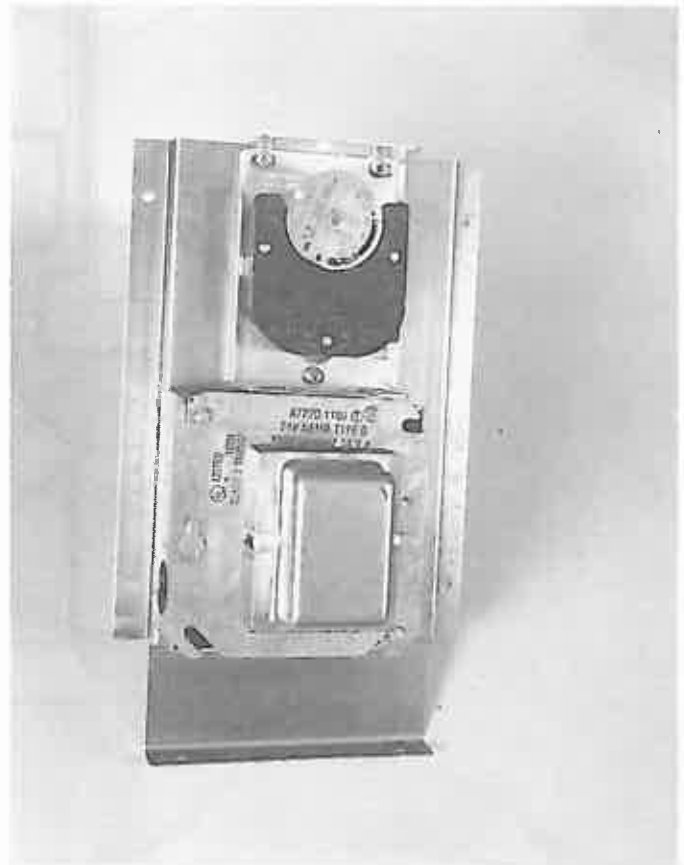

Figure 13
3. Drill 13/16" dia. hole through the plenum using hole in bracket as a guide, for the limit control. Attach the limit control to bracket using sheet metal screws (see Figure 13).